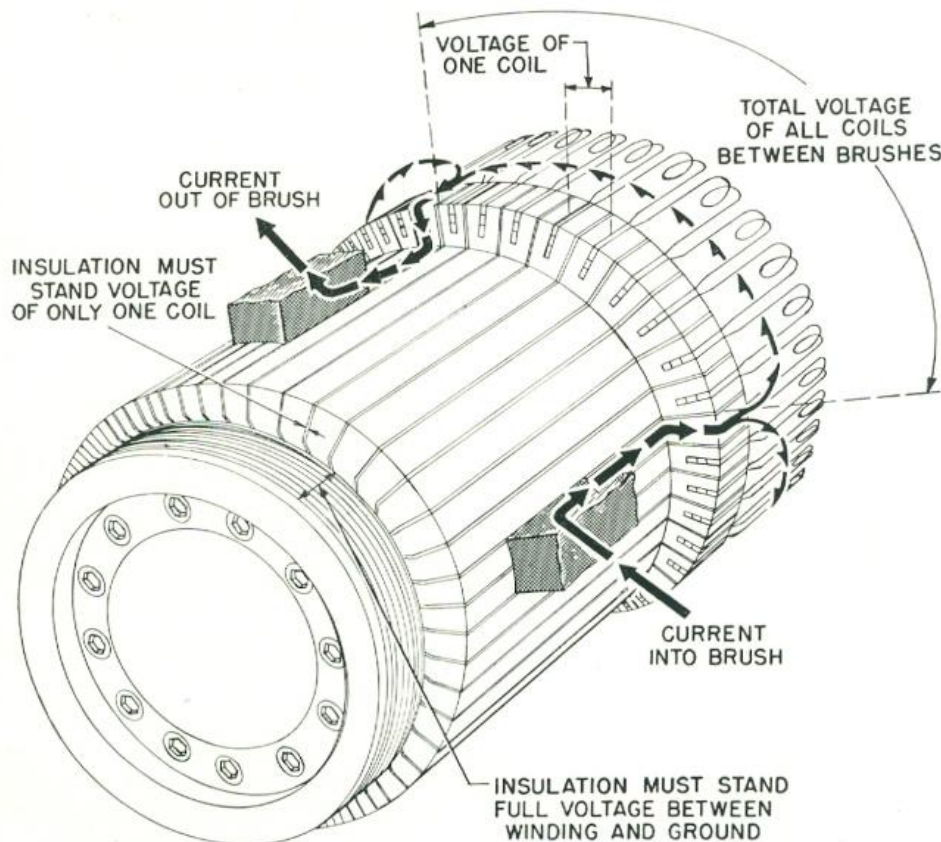

Fig. 2—The commutator must act as a reversing switch changing the alternating currents developed in the armature to the direct current in the exterior circuits
We may divide the work of the commutator into three parts. A study of Fig. 2 will serve to make this plain:
1. It provides the required sliding electric contact between the fixed brushes and the moving armature. Current enters the armature winding through a set of brushes. It then divides and follows two paths. When it reaches the next set of brushes, it leaves the armature. One such path is shown complete in Fig. 2.